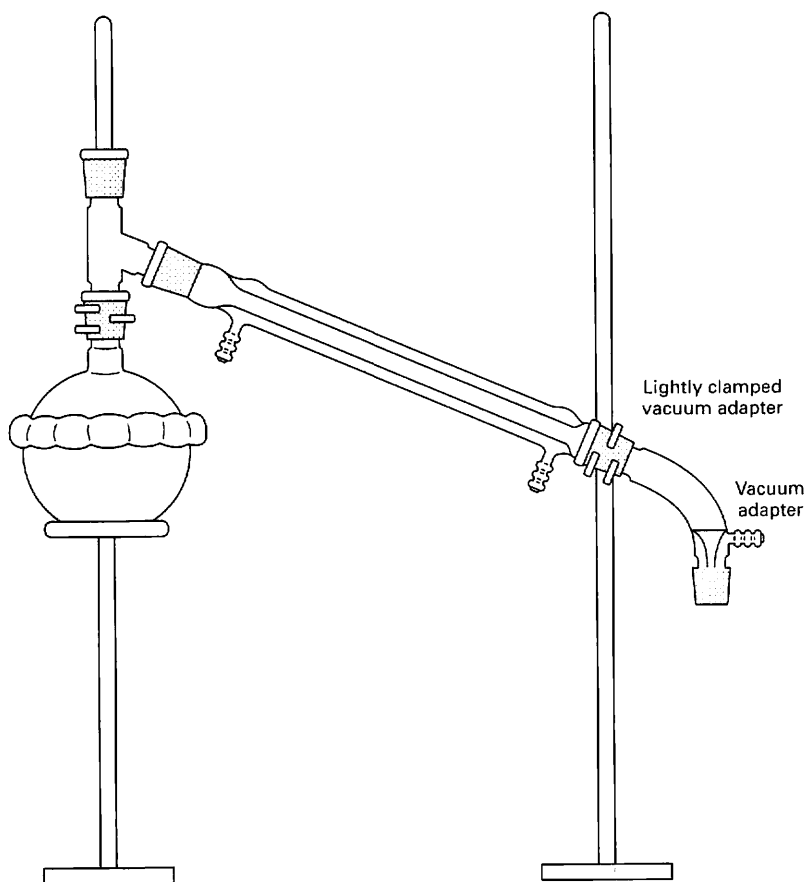

Fig. 93 Correctly clamping the vacuum adapter.
7. Put a vacuum adapter on the end of your condenser and hold it there. Put the top of the condenser (outer joint) onto the three-way adapter, and get the vacuum adapter joint cradled in the clamp you've set for it. Push the condenser/vacuum adapter toward the three-way adapter; lightly tighten the clamp on the vacuum adapter. The clamp **must** stop the vacuum adapter from slipping *off the condenser* (Fig. 93).